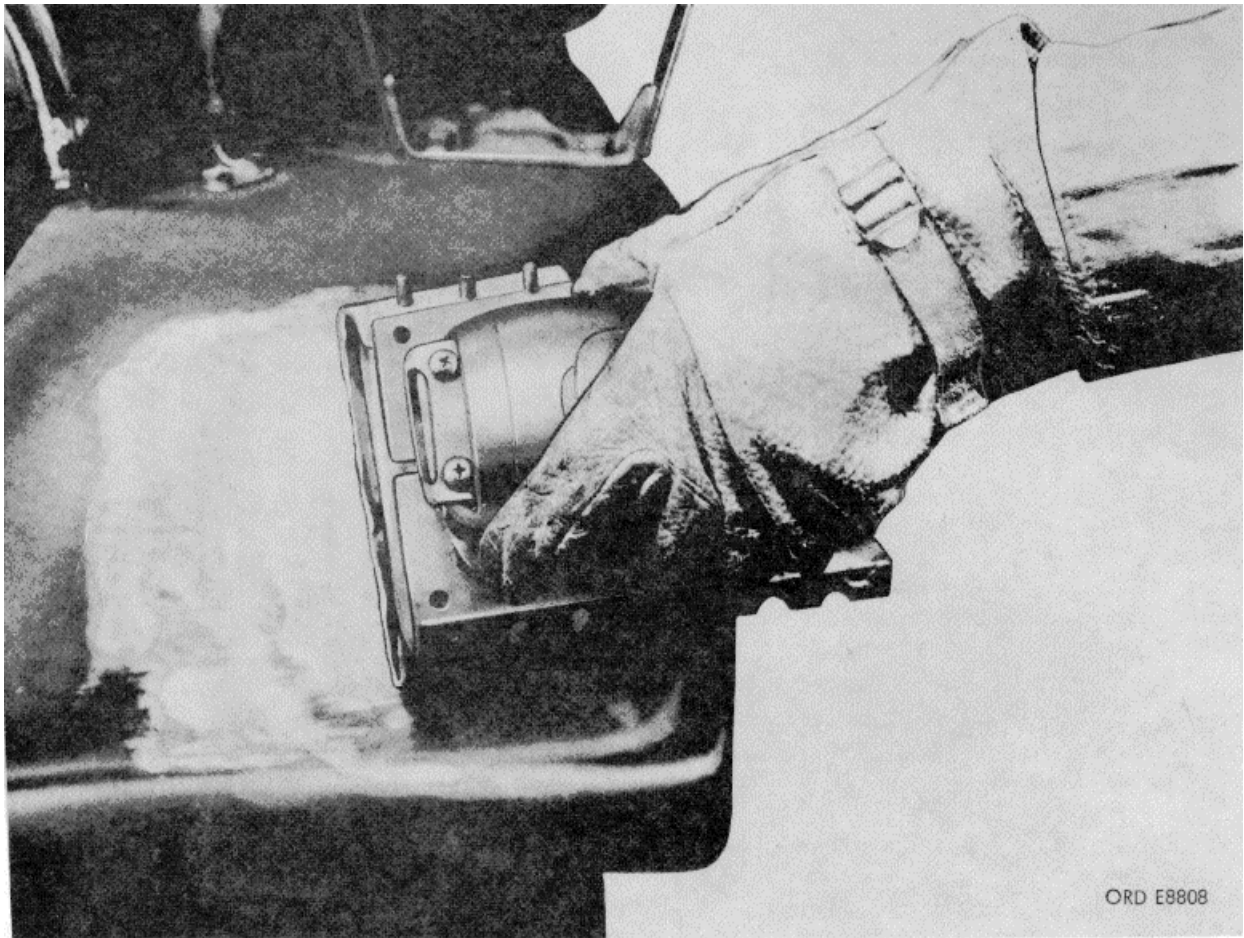

Figure 11. Final sanding with vibrator sander.
10. Final Metal Finish. Using a vibrator sander (fig. 11) with 80 grit paper, sand the repair area feathering the edges to surrounding contours. All repaired sections must be smooth as all blemishes and irregularities are emphasized when painted.